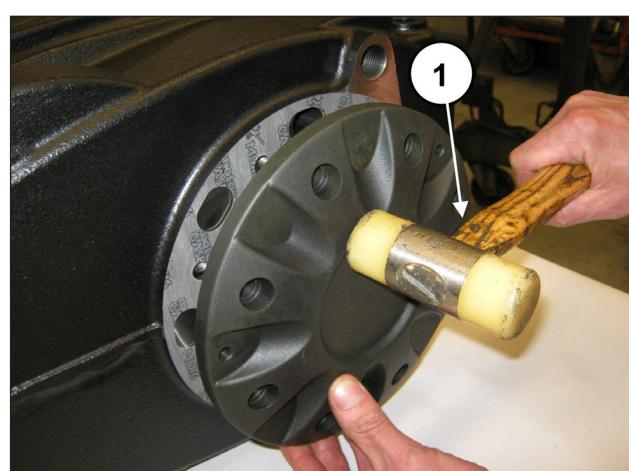

Fig. 61
Assemble the bearing cover (and relative seal) using an extractor hammer (pos. ①, Fig. 61)